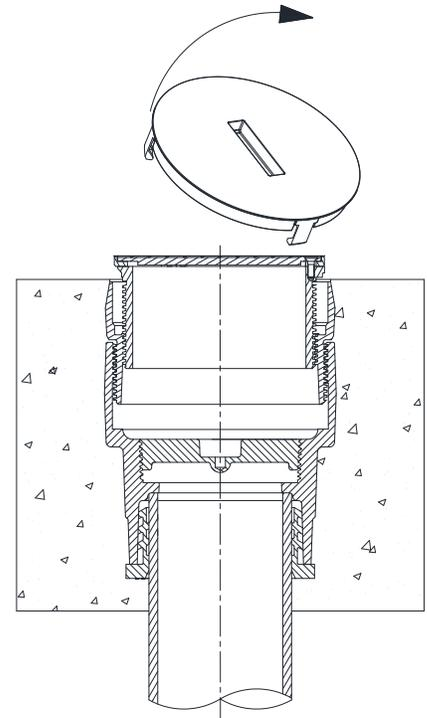

Fig. 8
8. Remove rough-in cover. See Fig. 8